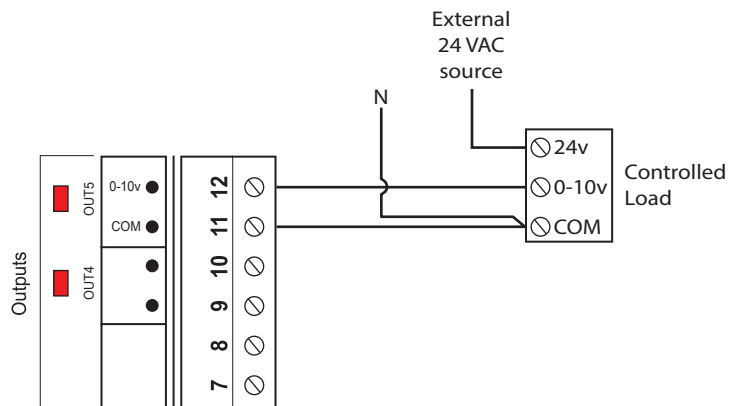

Figure 15 - Connecting the Analog Output (External Power)
2) The C1000 only provides the control signal to the load, which is powered by an external source (see Figure 15)